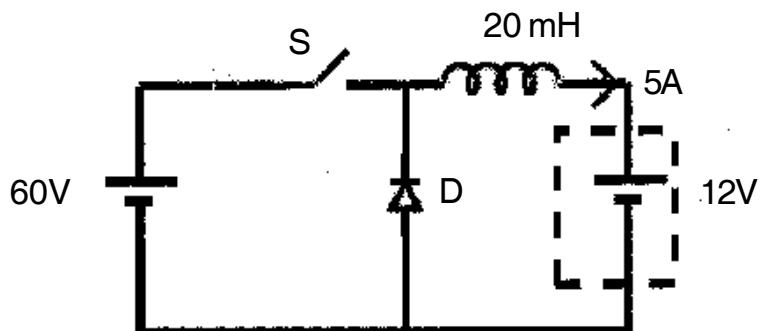

Fig.1
5. For the circuit as shown in fig. 1, $F_s = 1 \text{ KHz}$, $D = 0.2$, $L = 20 \text{ mH}$, $I_{avg} = 5\text{A}$. What is the peak to peak current ripple flowing through the load ? 10